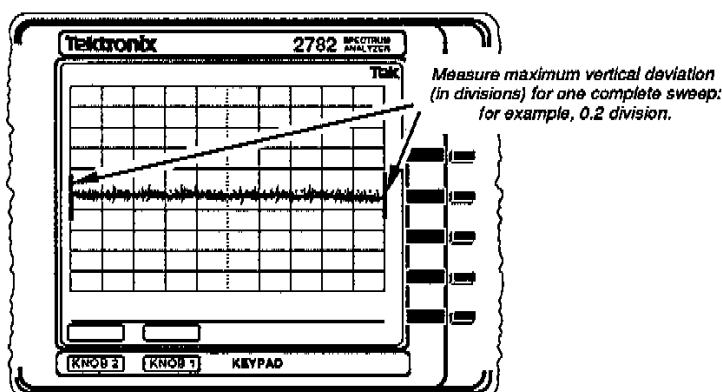

Figure 4-19. Baseline rise of 100 MHz reference signal.
7. After the sweep is completed, adjust the delta markers to the min and max deviation over the display so that one marker is on the display at the left edge of the graticule and the other marker is at the right edge of the graticule (as shown in Figure 4-19).